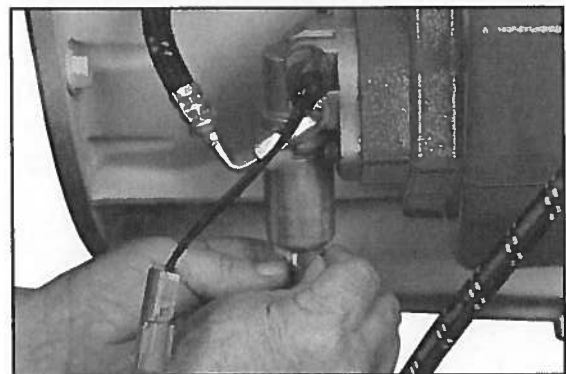

Fig. 32
- Complete the assembly by installing the electrical connection to the valve assembly (**Fig. 32**) and the pressure switch (**Fig. 33**).